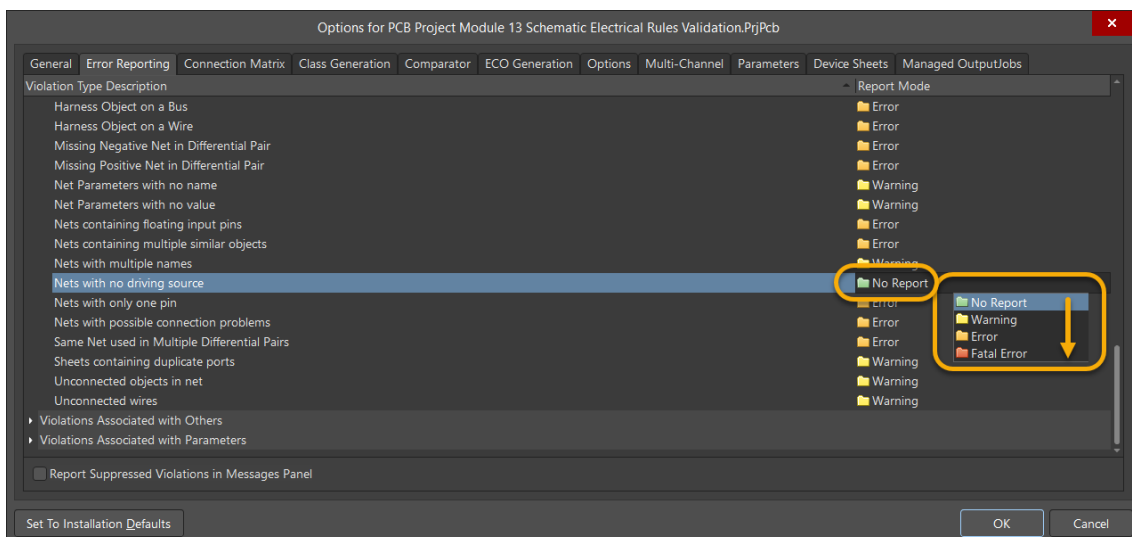

Figure 12. Net Violation Setting
39. In the *Error Reporting* tab, find the *Violations Associated with Nets* section, Figure 12.